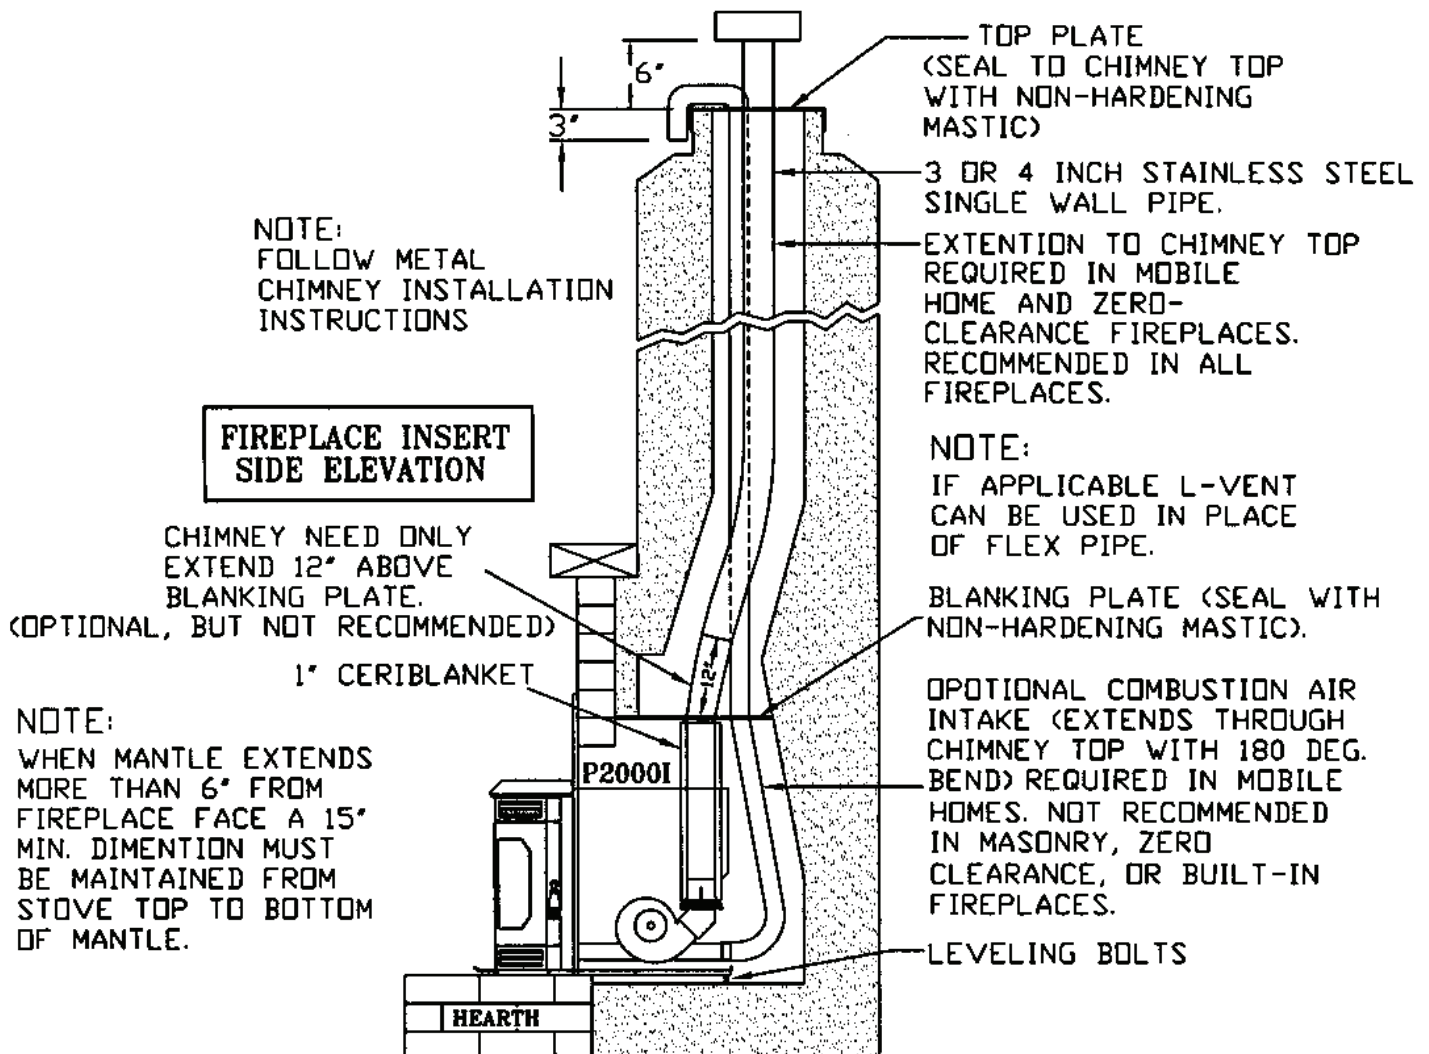

FIGURE 15
B. WHEN VENT PIPE EXTENDS TO CHIMNEY TOP (Refer to Figure 15)
(Masonry Fireplaces Only) (Refer to Figure 15)